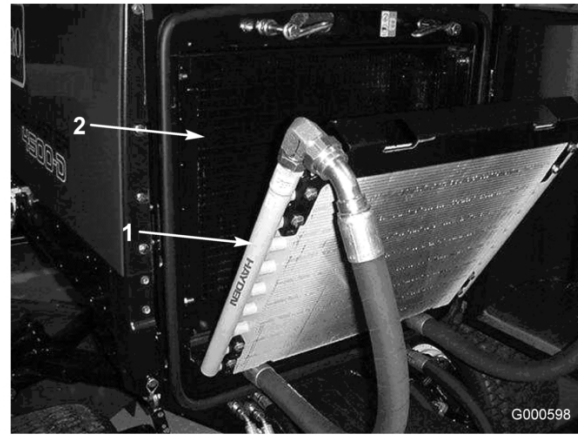

Figure 50
3. Pivot the oil cooler rearward. Clean both sides of the oil cooler and radiator area (Figure 50) thoroughly with compressed air.